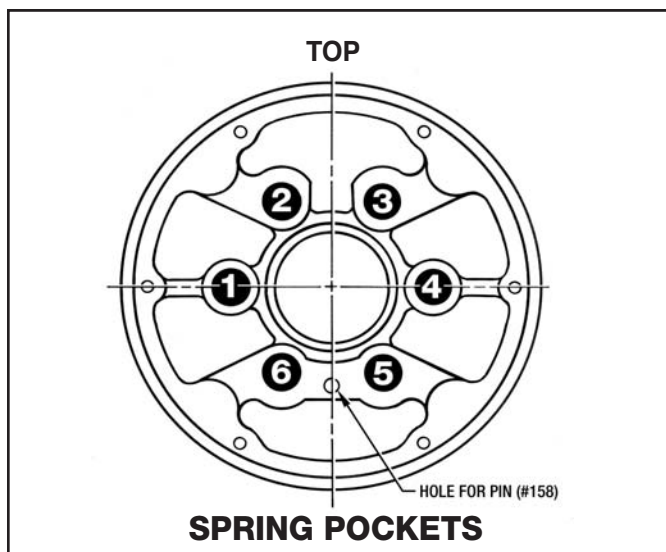

Figure 9.6 - Correct Placement of Springs (#36)
5. Place the proper number of Springs (#36) into their prospective spring pockets. (See Figure 9.6 below)
6. Lubricate the (6) small O-Rings (#34) and install them into the back face of the Piston Housing (#10).
7. Lower the Piston and Piston Housing Assembly down and on the Housing (#8). Make sure the spring pockets in the Piston (#3) align with the Springs (#36). Also the Pin (#158) in the Piston has to be aligned with the small hole at the bottom of the Housing (#8) as shown in Figure 9.6 above.
8. Attach the Piston Housing (#10) to the Housing (#8) with (6) Screws (#153) and (6) Lockwashers (#127). **Tighten in an even manner to compress the Springs (#36) correctly. Torque to 14 Lb. Ft.**